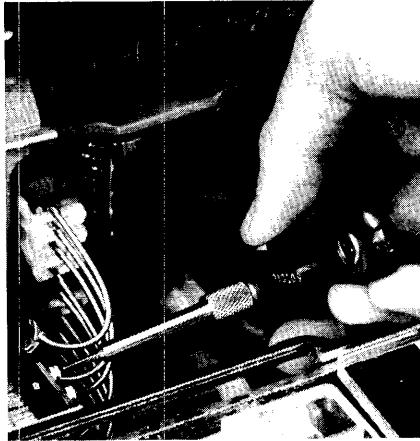

FIGURE 4-9. USING HEAD TORQUE TOOL
- e. Before torquing the screws (see Figure 4-9), check to see that the arm is resting properly on the cam surface and that the flexure has not been bent during head installation. This can most easily be observed from the front of the machine.